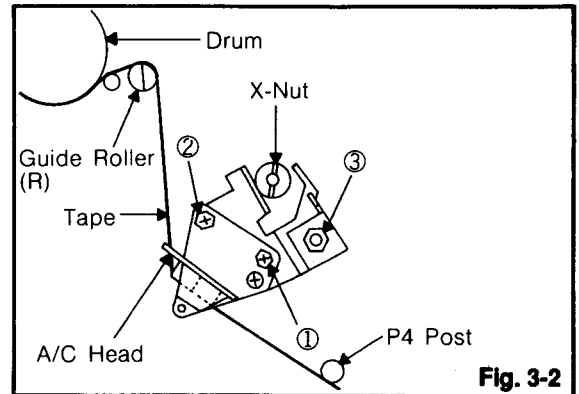
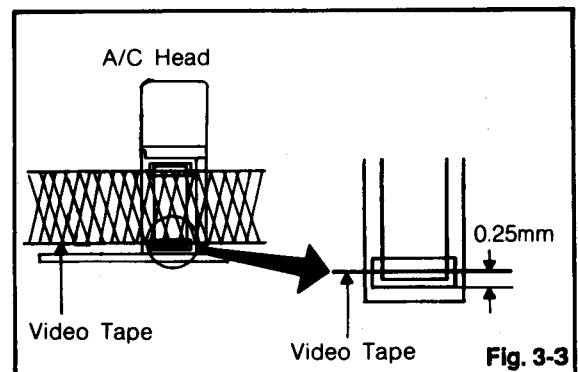

Fig. 3-2
Fig. 3-3
2. Confirm that there is no crease on the tape between the guide post and guide roller(R) and the tape is running smoothly. (It is absolutely impossible to get satisfactory sound if the tape is distorted between the A/C head and guide post.)
3. If the tape still does not run smoothly, turn the screw ① and adjust the tilt of the A/C head. Do not move the guide post. (Refer to Fig. 3-2)
2. Turn the screw ② slowly to change the height of the A/C head. Adjust the height so that the audio output becomes maximum. (Refer to Fig. 3-2)
3. Adjust the nut ③, (Refer to Fig. 3-2) until the height of the A/C head reaches the position against the tape as shown in Fig. 3-3.
1. Make sure the above adjustment items 2-1 thru 3-3 are completed. Readjust as required.
3. Using the X nut adjusting screwdriver (JG021), adjust the X nut (shown in Fig. 3-2) so that the PB RF waveform's amplitude be maximum.